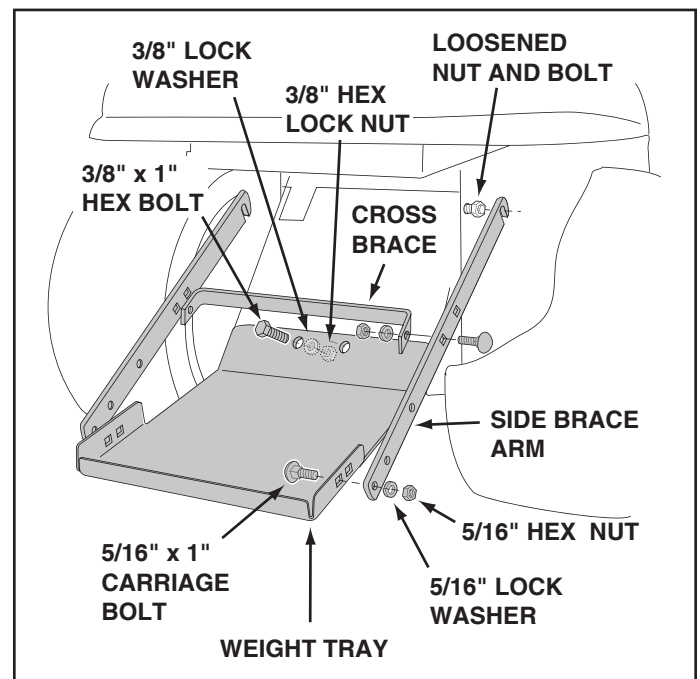

FIGURE 24 VIEWED FROM REAR
- Loosen the two hex bolts and nuts which fasten the top of the tractor drawbar to the rear of the tractor frame. See figure 24.
- Assemble the notched end of the side brace arms down onto both loosened bolts. **Do not tighten yet.** See figure 24.
- Fasten the weight tray to the drawbar using two 3/8" x 1" hex bolts, 3/8" lock washers and 3/8" hex lock nuts. **Do not tighten yet.** See figure 24.
- Fasten the weight tray to the side brace arms using two 5/16" x 1" carriage bolts, 5/16" lock washers and 5/16" hex nuts. **Do not tighten yet.** See figure 24.
- Fasten the weight tray cross brace to the side brace arms using two 5/16" x 1" carriage bolts, 5/16" lock washers and 5/16" hex nuts. **Tighten all loose bolts at this time.** See figure 24.